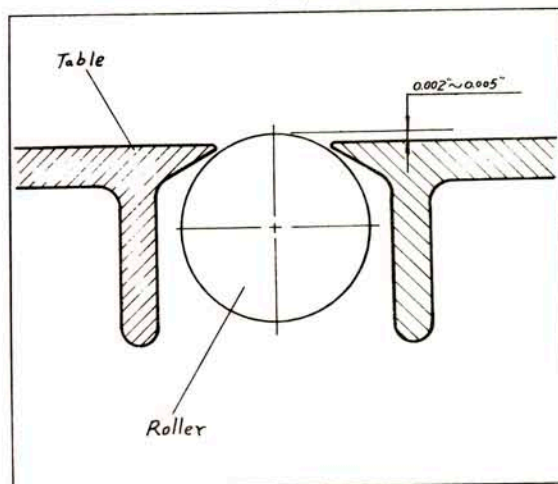

Fig. 14
**NOTE:** The raising range between 0.003"-0.006" when raising the roller higher above table as shown in Fig. 14.